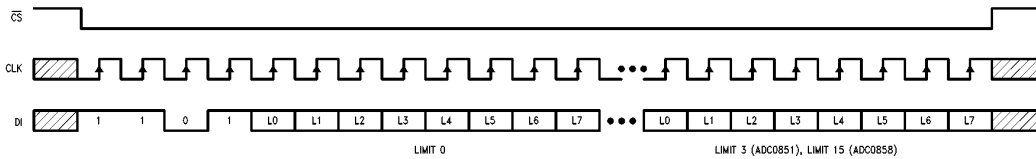

FIGURE 4. Timing Diagram for Write All Limits
Figure 4 shows the timing diagram. After \overline{CS} is brought low, the input word (DI) is clocked in starting at the first rising edge of CLK. The first four bits of D1 configure the device in the “write all limits” mode. Next, the limit data is serially clocked in. To complete the operation, \overline{CS} should be brought high after the data is loaded.